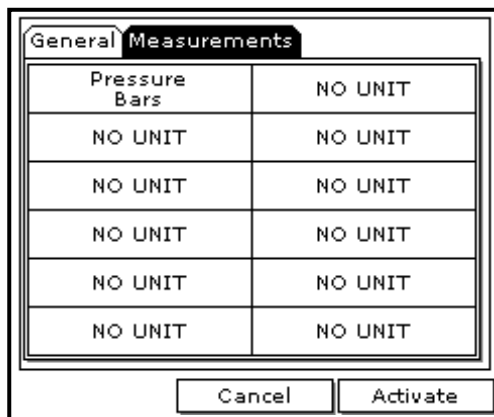

Figure 43: Log Measurements Window
2. Use the arrow keys to move back to the General tab and then move to the Measurements tab and press **[ENTER]**. A screen similar to Figure 43 appears.